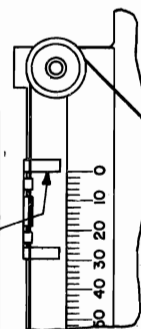

Fig. 6. Pointer-guide Clip Setting with Gang Condenser Closed
R.F. alignment can be performed only on the "BC" and "SW-1" bands with the chassis outside the cabinet. Any alignment attempted on "SW-2" band will not be satisfactory. The same relative position between the chassis and cylindrical Beam-a-Scope should be maintained when aligning the "BC" and "SW-1" bands. Since the glass dial scale is fastened to the cabinet it cannot be used for reference during alignment of the chassis outside of the cabinet. Use must be made, therefore, of a 0 deg. characterizer which is cemented to the top of the chassis. To align the "BC" band, the first completely close the gang condenser plates and then slide the pointer along the cord until the inside edge of the right-hand pointer-guide clip is in line with the 0 deg. mark. (See Fig. 6.) By using this edge of the clip as the degree-scale pointer this receiver may be tuned to any frequency. The "BC" band is aligned by tuning to 1500 KC on the "BC" band.